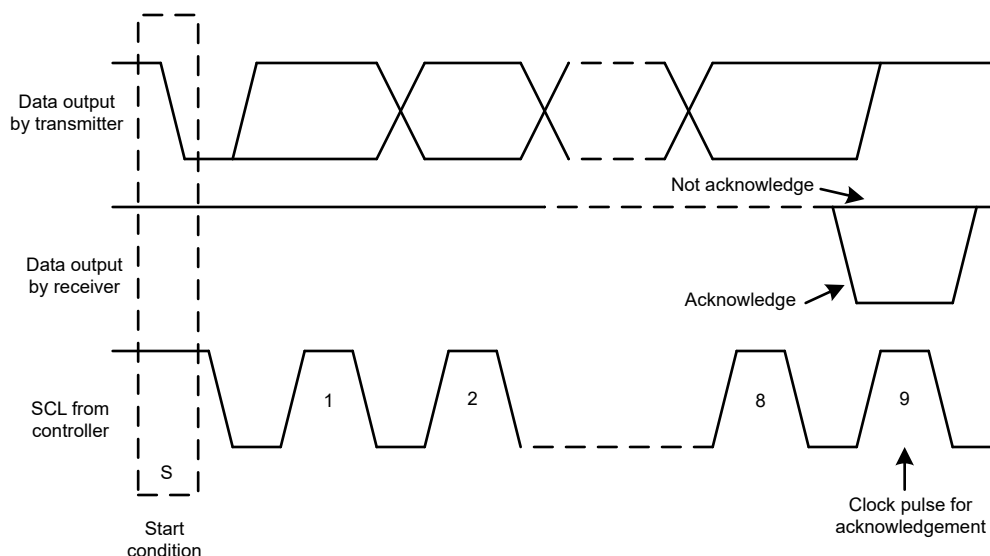
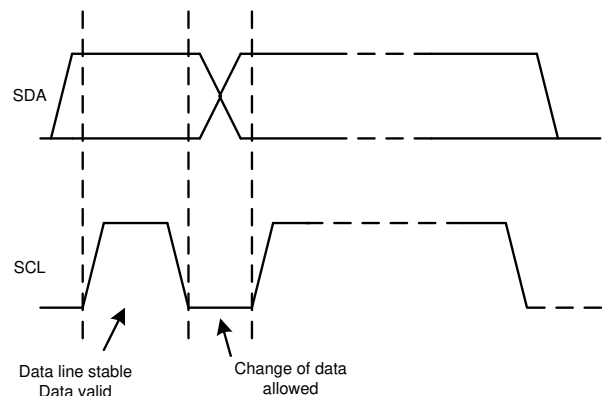

Figure 6-19. Acknowledge and Not Acknowledge on the I²C Bus
Figure 6-21. Bit Transfer on the I²C Bus
Other than specific timing signals, the I²C interface works with serial bytes. At the end of each byte, a ninth clock cycle generates and detects an acknowledge signal. An acknowledge is when the SDA line is pulled low during the high period of the ninth clock cycle. Figure 6-19 depicts a not-acknowledge, when the SDA line is left high during the high period of the ninth clock cycle.
2. The controller then generates the SCL pulses, and transmits the 7-bit address and the read/write direction bit (R/W) on the SDA line. During all transmissions, the controller makes sure that data are valid. Figure 6-21 shows that a valid data condition requires the SDA line to be stable during the entire high period of the clock pulse. All devices recognize the address sent by the controller and compare the address to the respective internal fixed address. Only the target device with a matching address generates an acknowledge by pulling the SDA line low during the entire high period of the 9th SCL cycle (see also Figure 6-19). When the controller detects this acknowledge, the communication link with a target has been established.